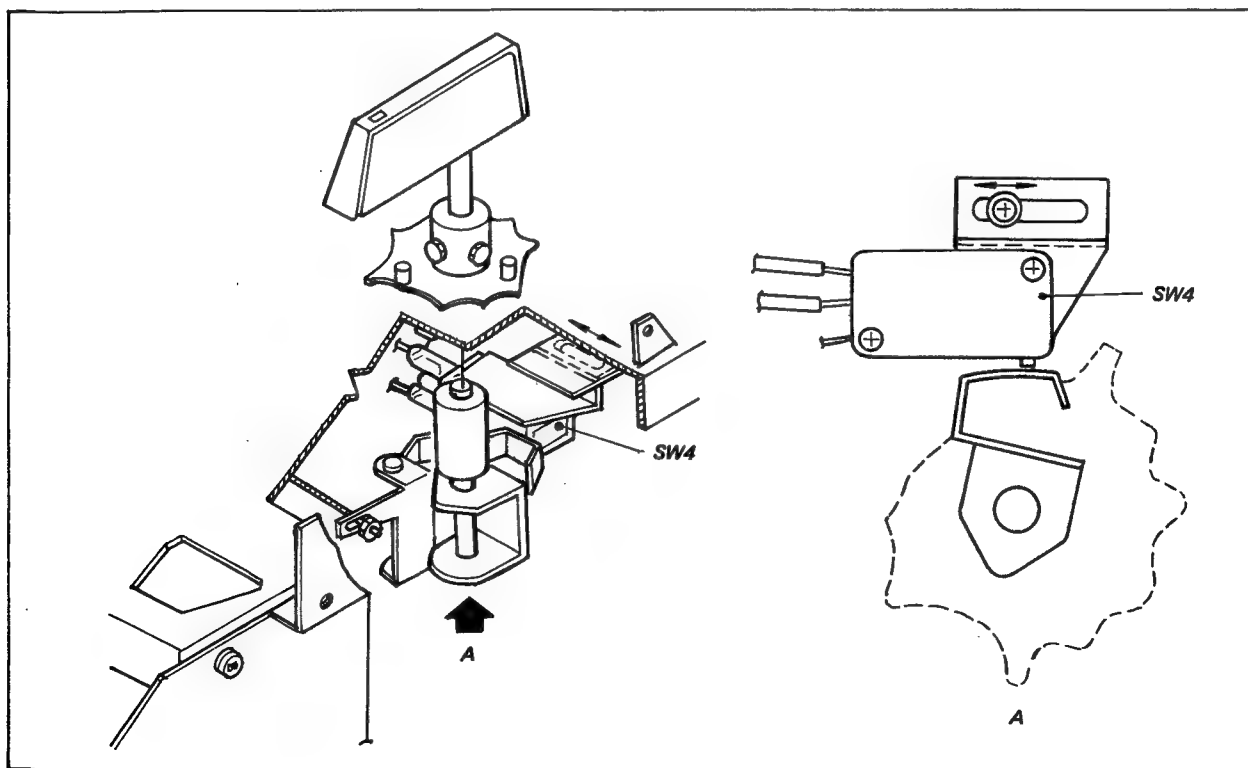

Fig. 4-25. Microswitch adjustment
1. Set the Function Lever to the STOP mode. Make sure that the switching button of the microswitch (SW 4, under the chassis, beneath the Function Lever) is in the center of the Cam. See Fig. 4-25. Note, the microswitch (SW 4) turns off with the pushbutton pressed.